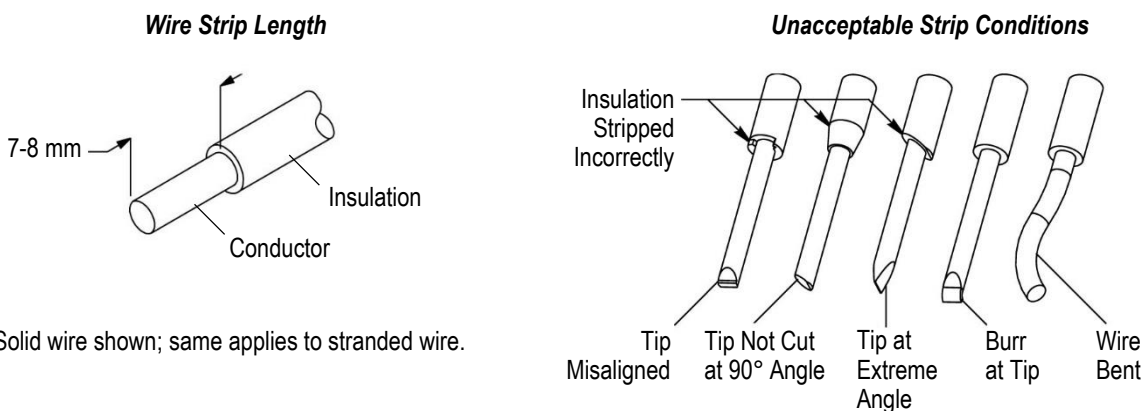

Figure 2
The LED holder accepts solid and stranded wire sizes 20 AWG having maximum of 7 strands and 18 AWG having a maximum of 16 strands with a maximum insulation diameter of 2.3 mm. It is recommended to use Underwriters Laboratories Inc. (UL) Appliance Wiring Material (AWM) Style 1007 or 1061. The wire must be stripped within the dimensions provided in Figure 2.